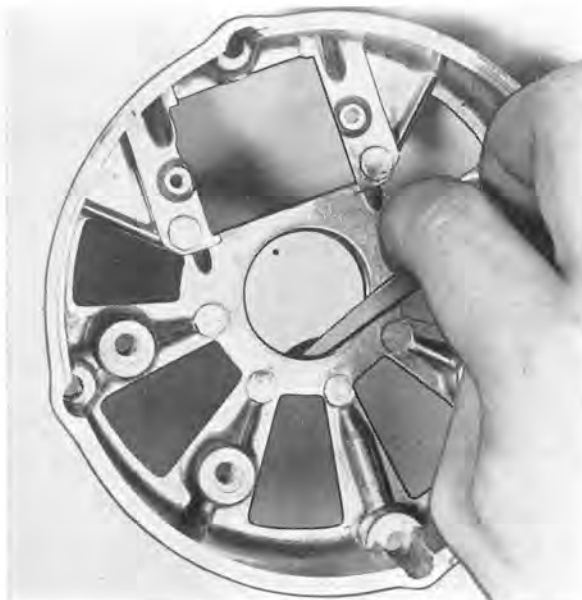

Fig. 3-18. Removing O-ring
1. Remove the O-ring with a steel blade with rounded edges (for example, a feeler gauge), see Fig. 3-18.